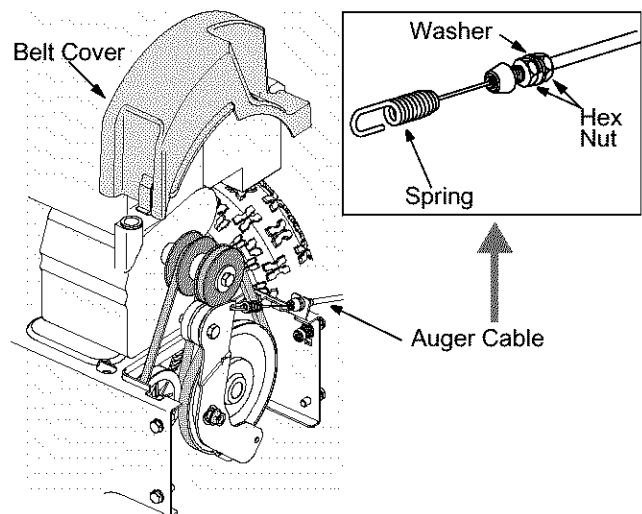

Figure 15
2. Tighten two hex nuts on the auger cable towards the spring to increase the tension on the auger belt. See Figure 15 .